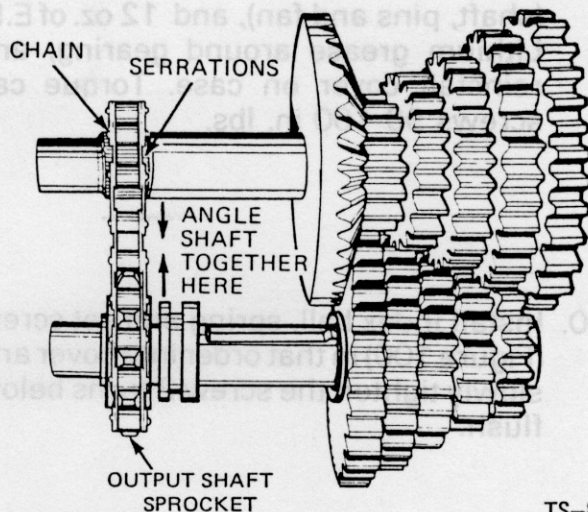

Figure 97
5. Assemble sprocket (Figure 97) onto the output shaft over serrations with collar of sprocket facing shifting keys.
6. Angle the two shafts together (Figure 97) and install chain, and align sprockets.